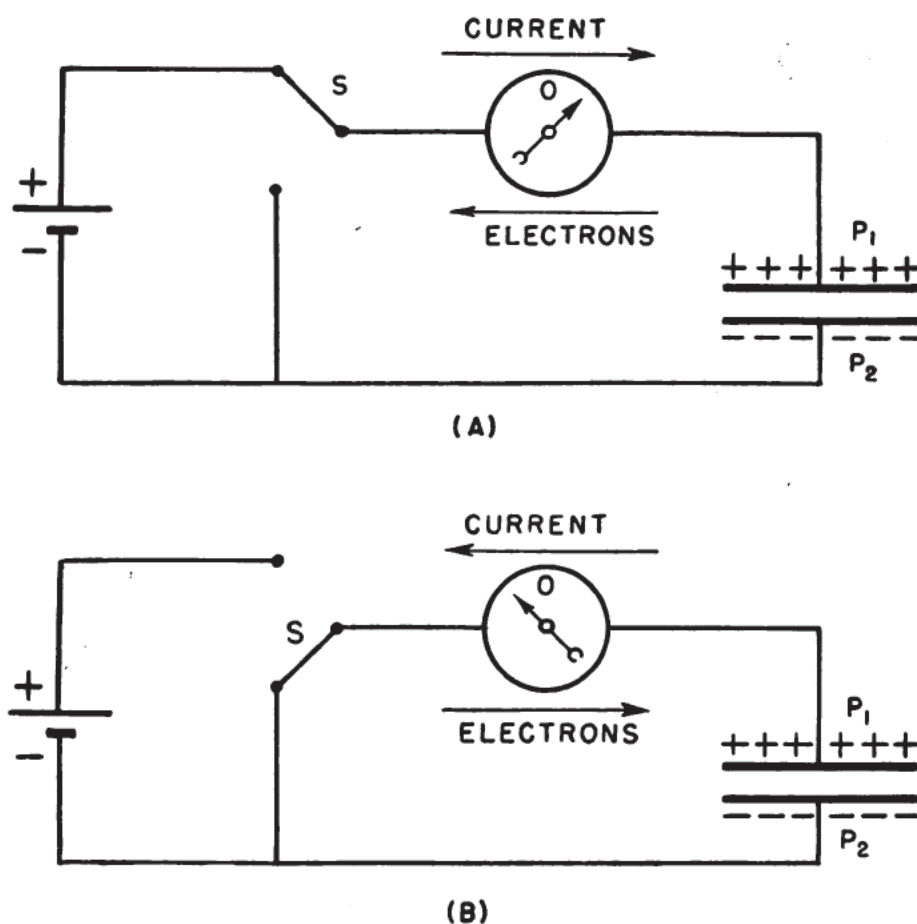

Figure 167.—Condenser action.
As you learned at the end of Chapter I, a condenser consists of conductors, or plates, separated by some insulator. Another name for this insulator is a DIELECTRIC. You use a condenser to reduce arcing at contact points, to counteract the objectionable effects of inductance, and to obtain PULSES of current. In figure 167, you can see the action of a condenser in an electrical circuit. When you close the battery circuit in (A) by means of switch *S*, you get a MOMENTARY flow of current as indicated by the deflection of the galvanometer. Though the current is only momentary, it does charge the condenser. That is, the emf of the battery forces electrons to flow away
When the switch S connects the plates of the condenser together, as you see in (B) of figure 167, the galvanometer is again momentarily deflected in a direction opposite to that in (A).